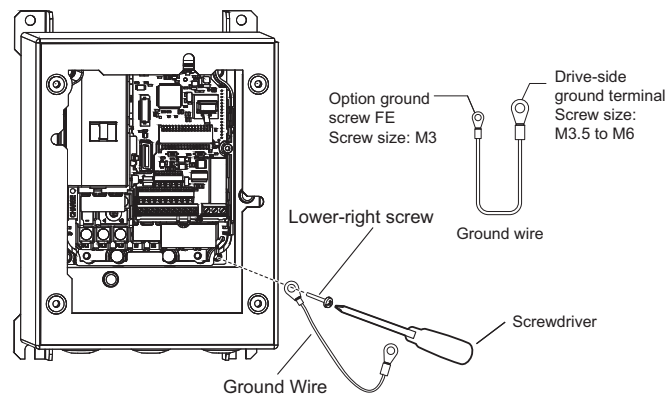

Figure 17 IP66/UL Type 4X Ground Wire Connection
- 14.** For IP66/UL Type 4X enclosure models, reattach the drive ground terminal screw according to Figure 17.